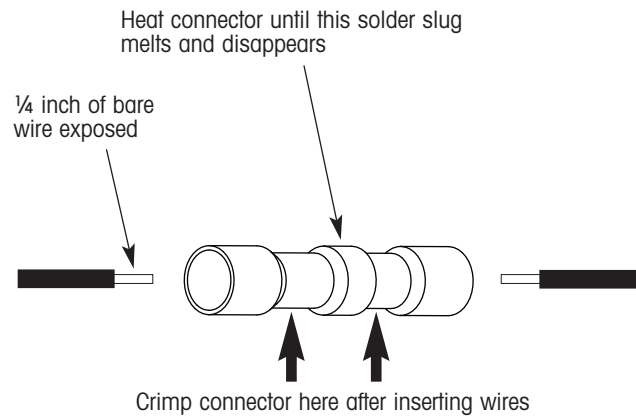

Figure 3. Crimp and solder connection details
To make wiring splices, you must use the crimp and solder connectors provided in the kit (figure 3).
1. Strip the wire insulation so that ¼-inch of bare wire is exposed (figure 3).
3. Using a proper crimping tool or needle-nose pliers, crimp the connector in two places as shown in figure 3.